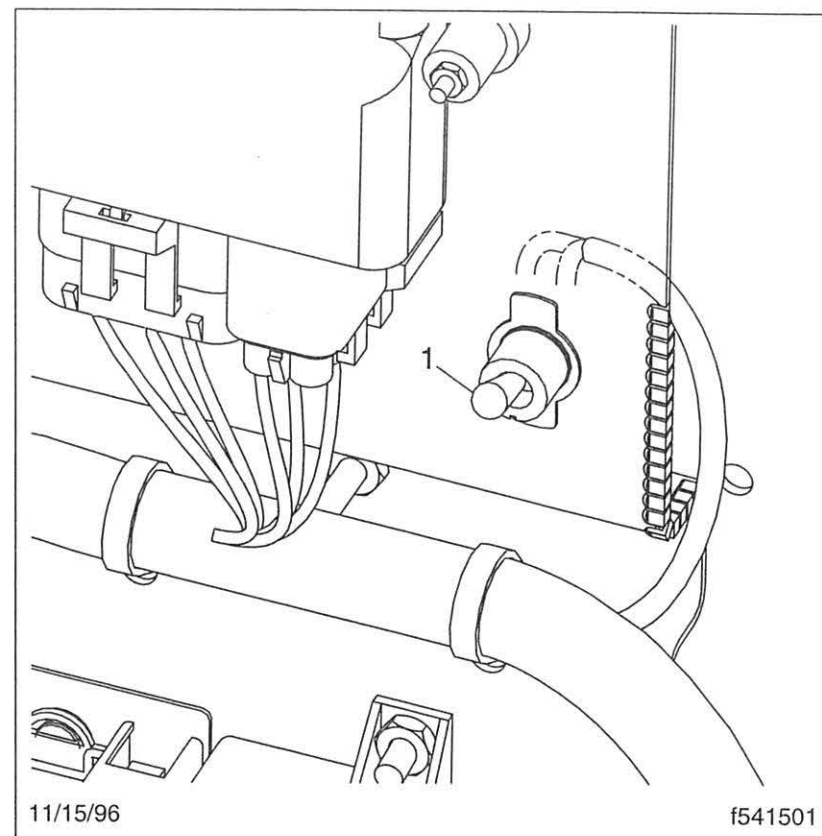

Fig. 3.11, Program Switch
- A program switch on the Rockwell relay module that places the relay module in the learning mode, which is the only state in which the system can learn fob ID codes. The switch is shown in its normal, or OFF, state (toggle pointing up). See **Fig. 3.11**.
1. With the ignition keyswitch turned off, turn the program switch ON (flip the toggle DOWN). See **Fig. 3.11**.